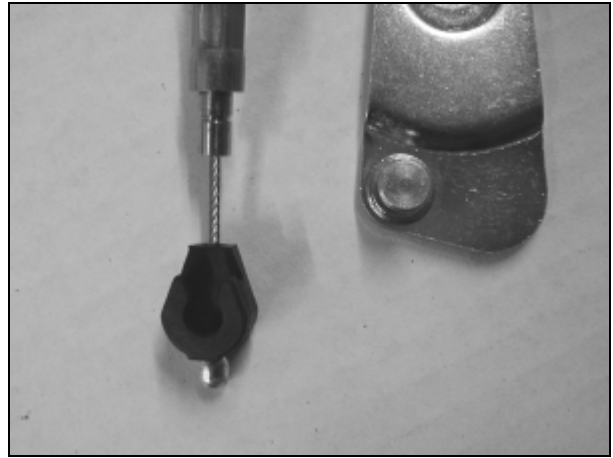

Figure 11. Cruise Cable End and Wheel Pin
22. See Figure 11. Install cruise cable end fitting onto wheel pin on cruise control wheel pin bracket (if carburetor equipped), or onto wheel pin of throttle wheel (if fuel injected). It will snap securely into place when properly seated.